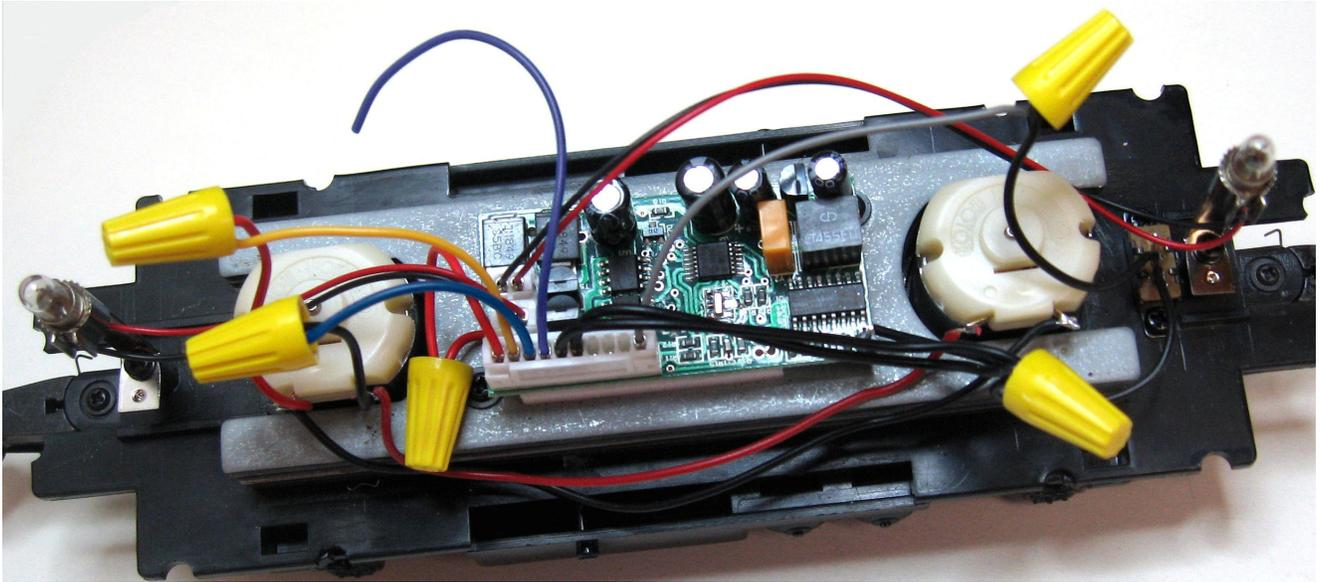

Figure 3 – Basic wiring complete
Refer to Figure 3 while performing the following steps. Additionally, the appropriate wiring diagram and connector pin designation drawings may be removed from the rear of this manual for easy reference.
8. Double check all wiring and verify that there are no exposed wire strands that could cause a short circuit. Your Beep should now look a lot like the one in Figure 3.